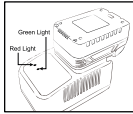

Fig. 2
- Connect the charger to a power outlet . Place the battery pack in the charger aligning raised rib on the battery pack with the groove in the charger . ( Fig . 2 )